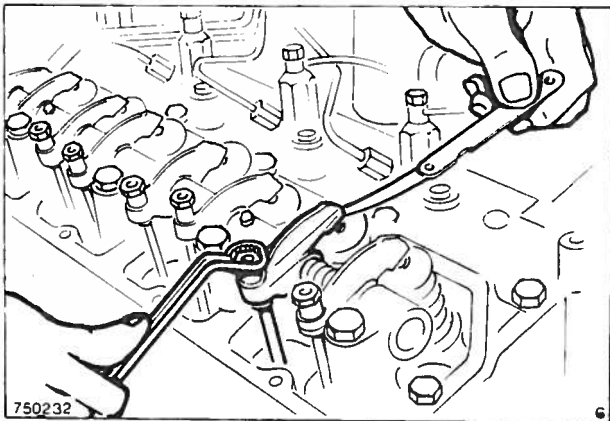

Fig. 47 Adjusting the valve clearances
36. Adjust the valve clearances (Fig. 47) in the sequence shown using a ring spanner or socket. See Specifications for the clearance.